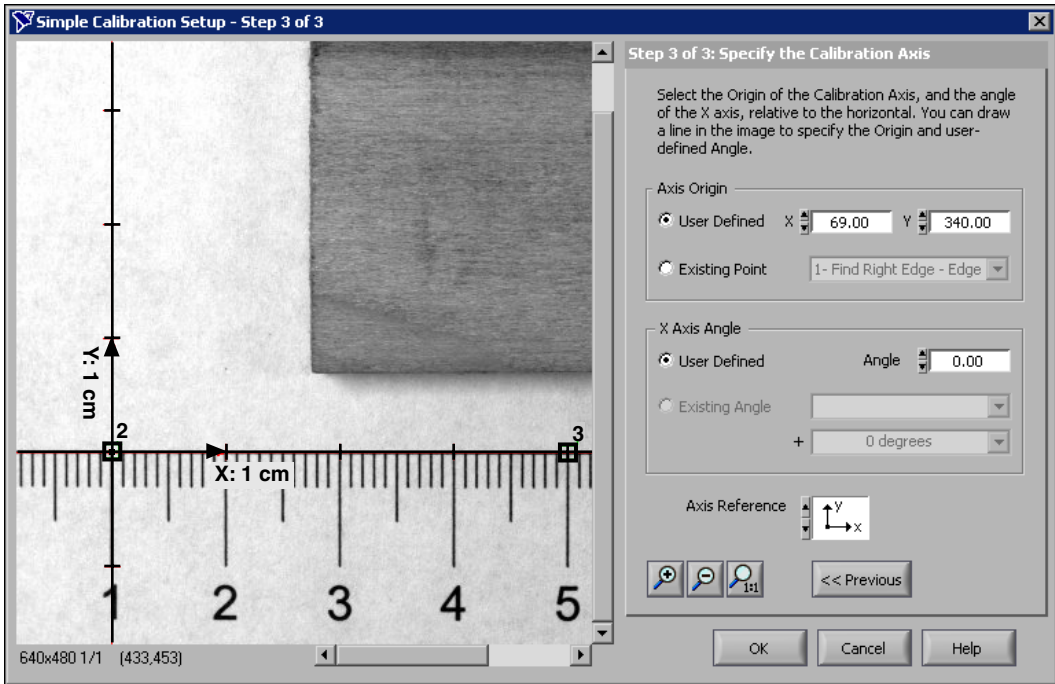

Figure 5-5. Defining the Origin and Angle of the Calibration Axis
11. In **Step 3 of 3**, click the 1 cm marking to define it as the origin of the calibration axis. Draw a line along the edge of the ruler to define the angle of the calibration axis, as shown in Figure 5-5.